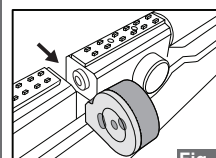

Fig. 8b
- 8) This magazine is designed to stop automatically when empty. Pull the bolt back, and push the magazine out of the receiver from the left side. (Fig. 8b)